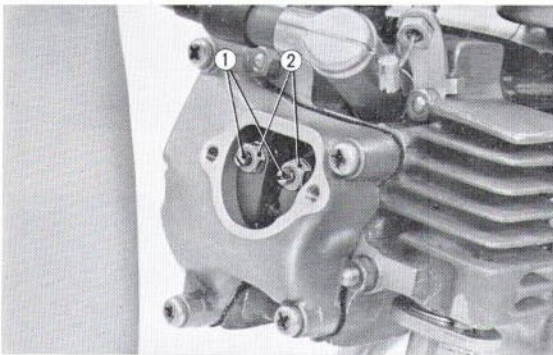

Fig. 1.9 ① Tappet adjusting screw
2. Remove the tappet adjusting cap on the cylinder head and check the clearance between the adjusting screw and the valve. If the valve is actuated by the screw, rotate the flywheel one complete revolution and realign the timing marks to set the piston at top-dead-center of the compression stroke. Check the tappet clearance with a thickness gauge to see if it is of standard clearance of **0.05 mm (0.002 in)**. If adjustment is necessary, loosen the adjusting screw lock nut and make the adjustment with the adjusting screw. Both the inlet and exhaust valves should be set to the same clearance. Lock the adjusting screw after the adjustment has been completed. (Fig. 1.9)